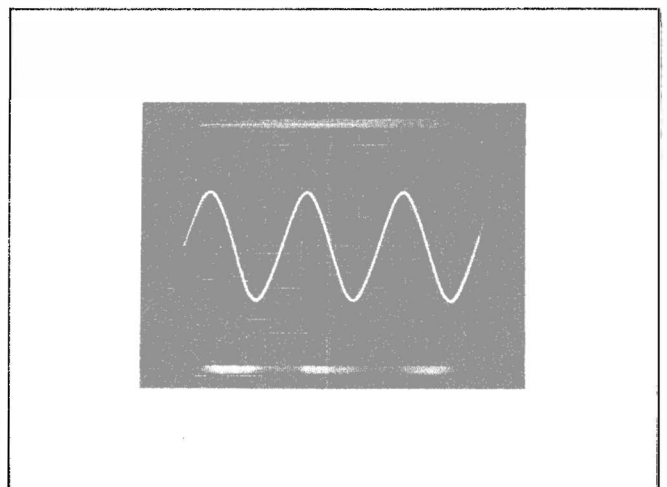

Fig. 4-8. Waveform at TP1234 on the Power Supply Inverter board with the line voltage at approximately 20 volts.
6. If no burst waveform occurred in part 4, repeat part 1 of this step. Then remove the current probe from the 7904 and the test oscilloscope. Connect a 10X voltage probe from the test oscilloscope to TP1234 on the Power-Supply Inverter board (see A11 circuit board). Set the variable autotransformer for 20 volts and check for a line ripple waveform which is about dc centered (see Fig. 4-8). If the waveform is not centered, check Q1246, CR1232, CR1240, CR1242, CR1249, and CR1244 for shorts or leakage.